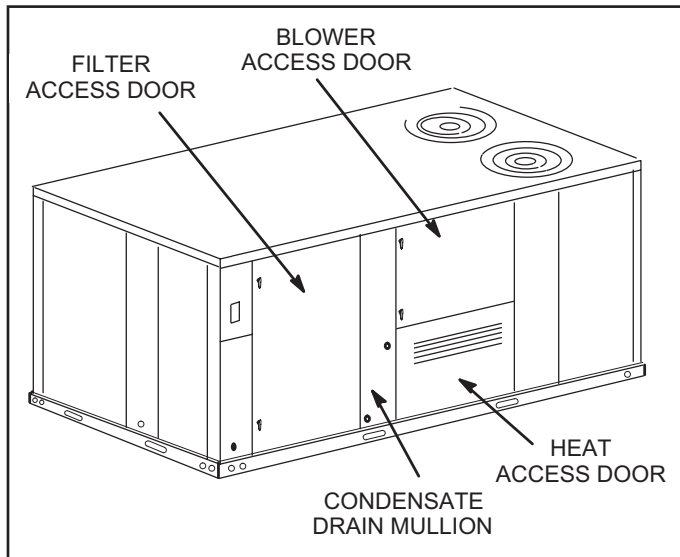

FIGURE 6
1 - Open blower and heat access doors. See FIGURE 6.
- 1 - Open blower and heat access doors. See FIGURE 6.